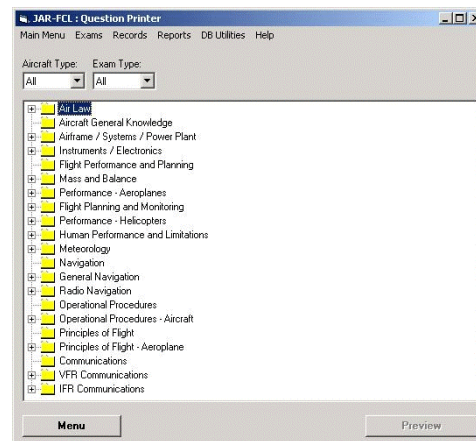

Figure 6: Question Printer
2. Question Printer: A tree like structure which represents the IAA question databanks (See Figure 6) subject and topic structure is used to select a subject or topic from which questions are to be printed. The printed questions are presented in pdf format.